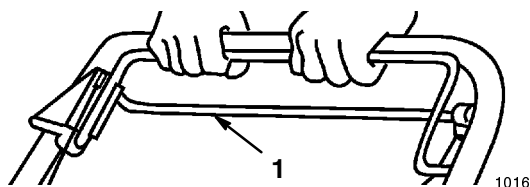

Figure 13
2. To disengage the self-propel drive, release the self-propel drive bail (Fig. 13), then push the lawn mower forward manually at least one inch (2.5 cm).